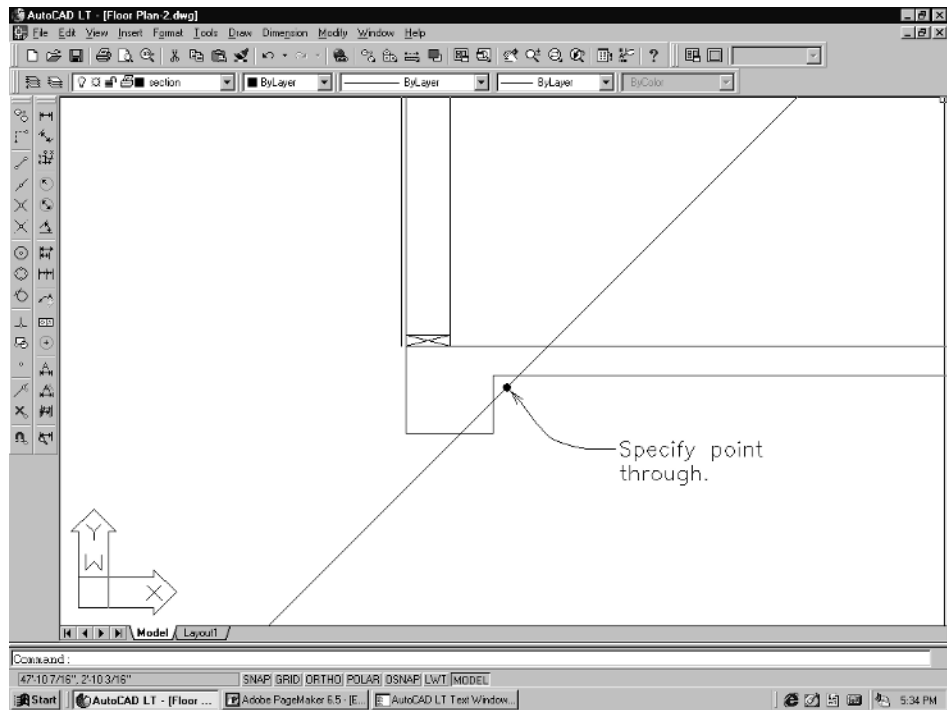

Figure 3-73
4. Next, add a 45 degree line as shown in Figure 3-73. Pick **Construction Line** from the Draw pull-down menu.